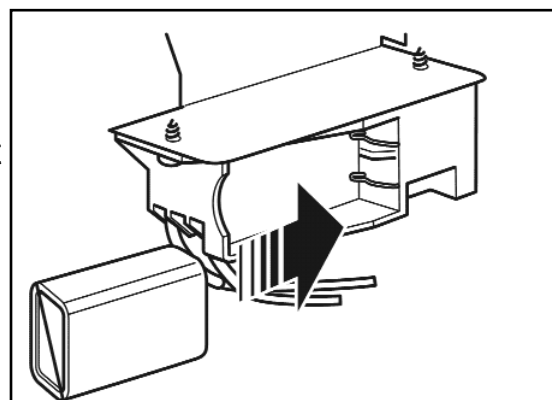

Figure 5. Fitting the battery
2. Fit the replacement battery to the igniter block (See figure 5). The positive (+ ve) and negative (- ve) terminal positions are clearly marked on the igniter block.